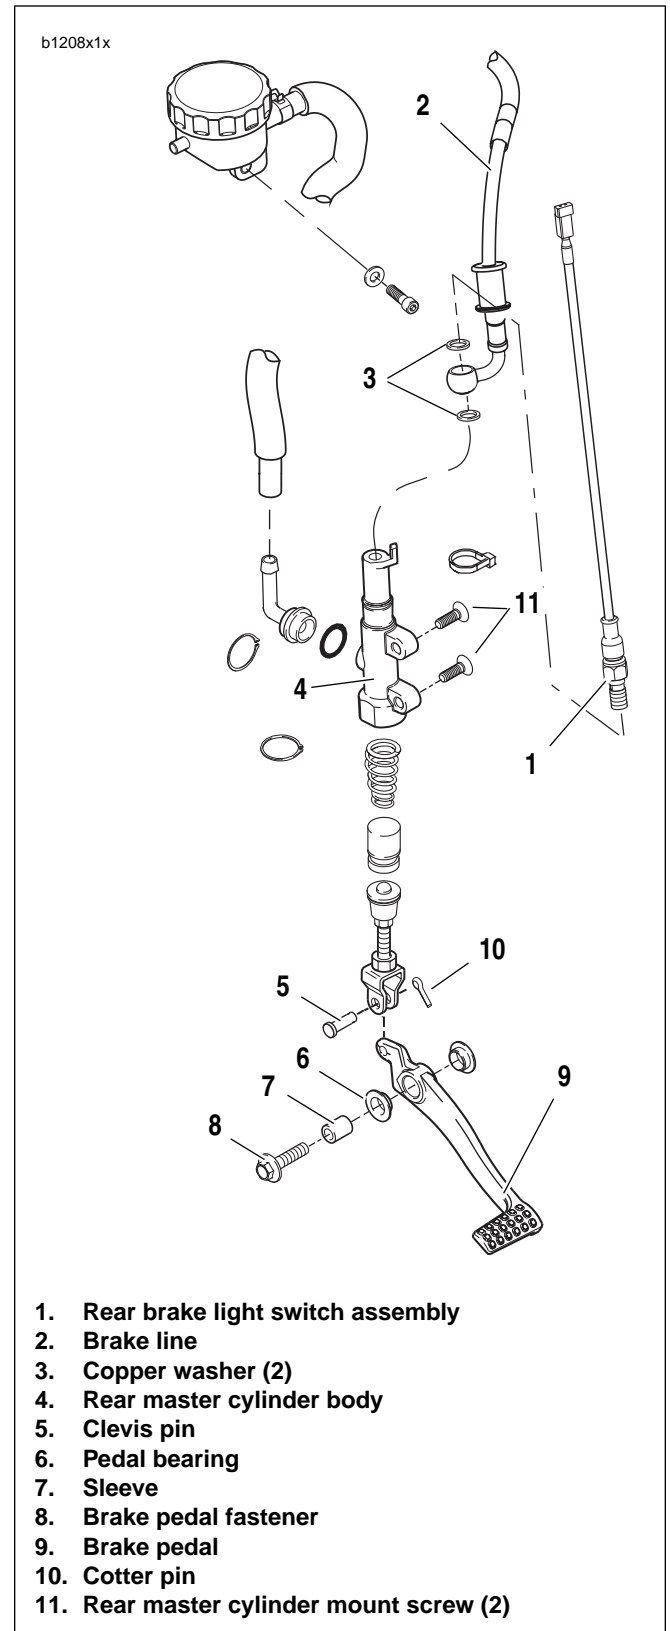

Figure 2-53. Brake Line Switch Connector
6. See Figure 2-53. Disconnect brake light connector located under the seat.
- a. If removed, attach remote reservoir (1) to frame using fastener and washer (3). Tighten to 48-72 **in-lbs** (5.4-8.1 Nm).
- b. Attach hose (3) to rear brake reservoir using clamp.
5. See Figure 2-53. Connect brake line switch connector under seat.